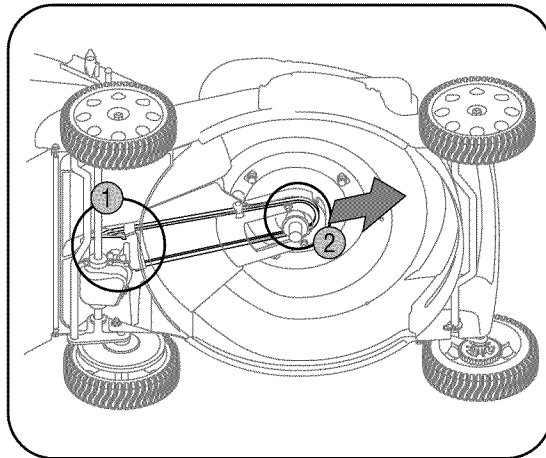

Figure 14
7. Once belt is off transmission pulley, push down on deck baffle to access engine pulley and slide belt off this pulley and out from under deck. See Figure 14.